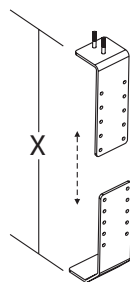

Figure 4-21
3. Position brackets as shown. Slide up or down until you achieve the measured well height. (Holes are arranged for 1/4" increments) **See Figure 4-21.**